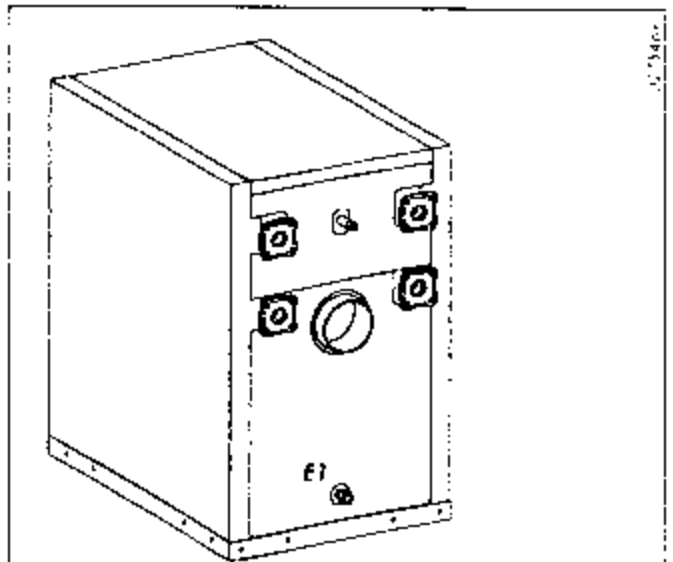

Fig. 28 Boiler drain
- If out of commission when there is a risk of frost, drain the installation - drain the boiler at the drain cock **E1** (Fig. 28).